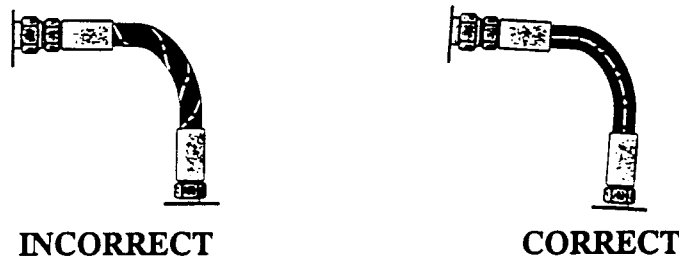

FIGURE 8—TWIST ANGLE AND ORIENTATION
- 7.3 Twist Angle and Orientation**—Pressure applied to a twisted hose may shorten the life of the hose or loosen the connections. To avoid twisting, use the hose lay line or marking as a reference (see Figure 8).